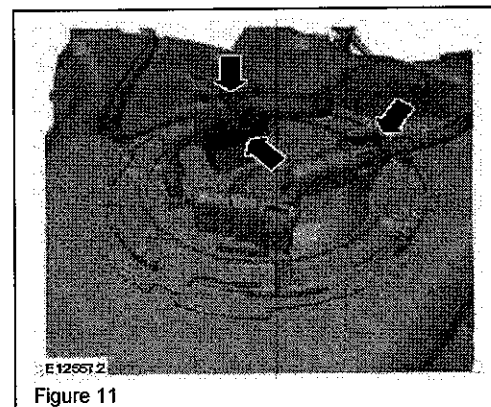

Figure 11
- Ensure the quick release coupling has latched onto the fuel pump module by pulling the tube after the connection has been made. (Figure 11)
23. Attach the fuel pump module wiring harness to the retaining bracket. (Figure 11)
24. Connect the fuel pump module electrical connector. (Figure 11)